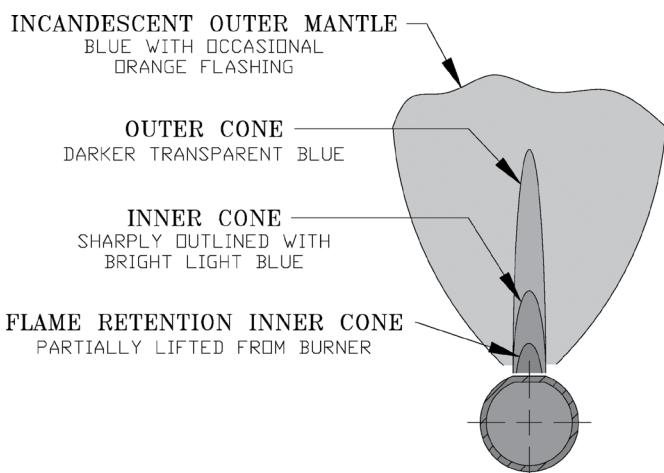

Figure 10-5: Main Burner Flame
- 10. Check Main Burner Flame (see Figure 10-5).